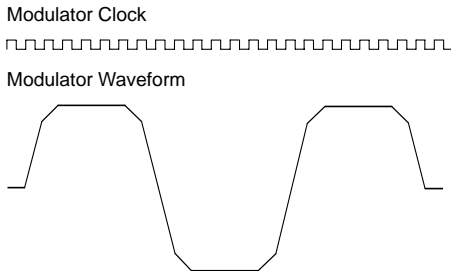
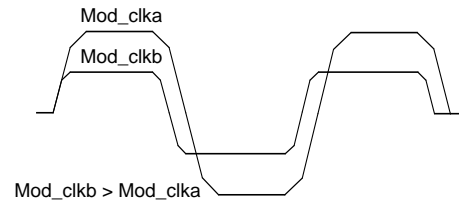

Figure 19. Modulator Waveform and Clock
Figure 20. Two Different Modulator Clock Setting
The modulator waveform is created by charging and discharging a capacitor. A modulator clock controls the timing, as shown in Figure 19. For every rise-and fall edge, 4 clock periods are being used. The charging current during these 4 clock periods are not equal, this is to reduce the high frequency components in the waveform, which in turn will narrow the frequency spectrum.
where f_{MOD_CLK} is the modulator clock shown in Figure 19, f_{XCO} is the crystal oscillator frequency Refclk_K is a 6 bit number and Mod_clkS is a 3 bit number. Mod_clkS can be set to a value between 0 and 7. The modulator clock frequency should be set according to the bit rate and shaping.
A f_{MOD_CLK} of 8 times the bit rate (as in Figure 20) corresponds to a signal filtered in a Gaussian filter with a Bandwidth Period product (BT) of 1. When BT is increased, the waveform will be less filtered. Minimum BT is 1 (f_{MOD_CLK} is 8 times the bitrate). Figure 20 shows two waveforms with BT=1 and BT=2, i.e. the f_{MOD_CLK} is 8 and 16 times higher than the bit rate. When changing the BT factor, the charge-and discharge times will also be changed, and therefore the frequency deviation, as shown in Figure 19.